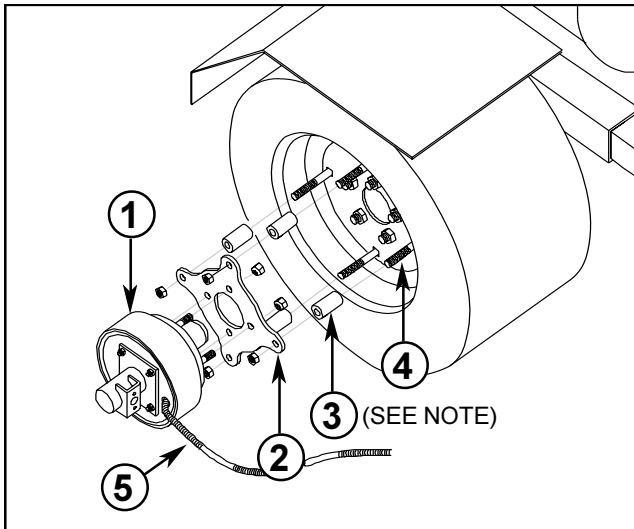

FIG. 5
1. Assemble the Adapter Plates onto the Brake Assembly Hubs with (4) 1/2" UNF wheel nuts as per FIG. 5. Torque nuts to 90 ft. lbs. (120 N-m).
2. Assemble Right Brake Hub / Adapter Plate Assembly onto Right Wheel using (4) Spacers and (4) 1/2" X 4 1/2" carriage hd. bolts. Torque nuts to 90 ft. lbs. (120 N - m).